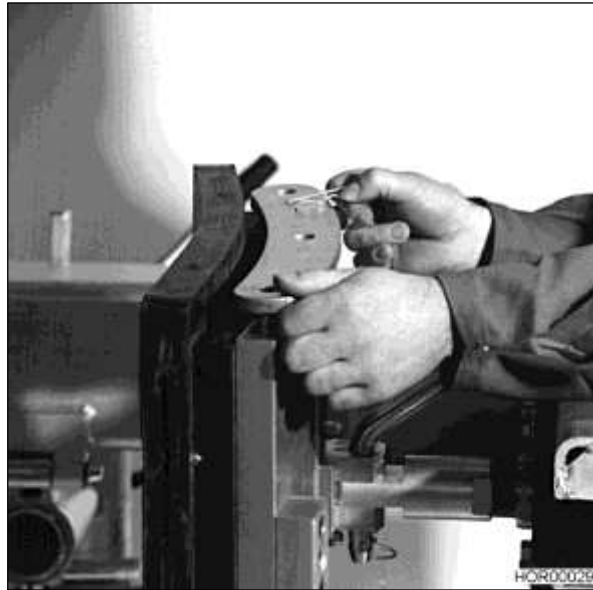

Bild 13 Replacing the heating plate contour segments
- Remove the upper contour segment's retaining spring (Bild 13).